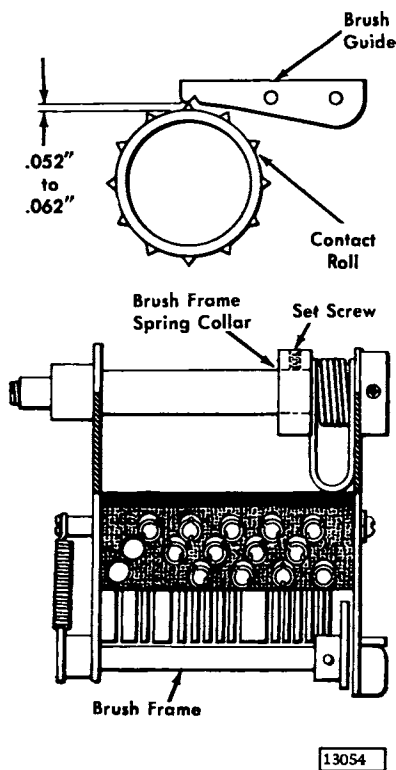

Figure 4-35. Carriage Brush Frame Assembly
1. Position the brush guide for a clearance of 0.052" to 0.062" between the brush guide and the contact roll (Figure 4-35).
2. Position the brush frame spring collar so that the frame is held at a 45° angle when the brush frame latch is released (Figure 4-35).